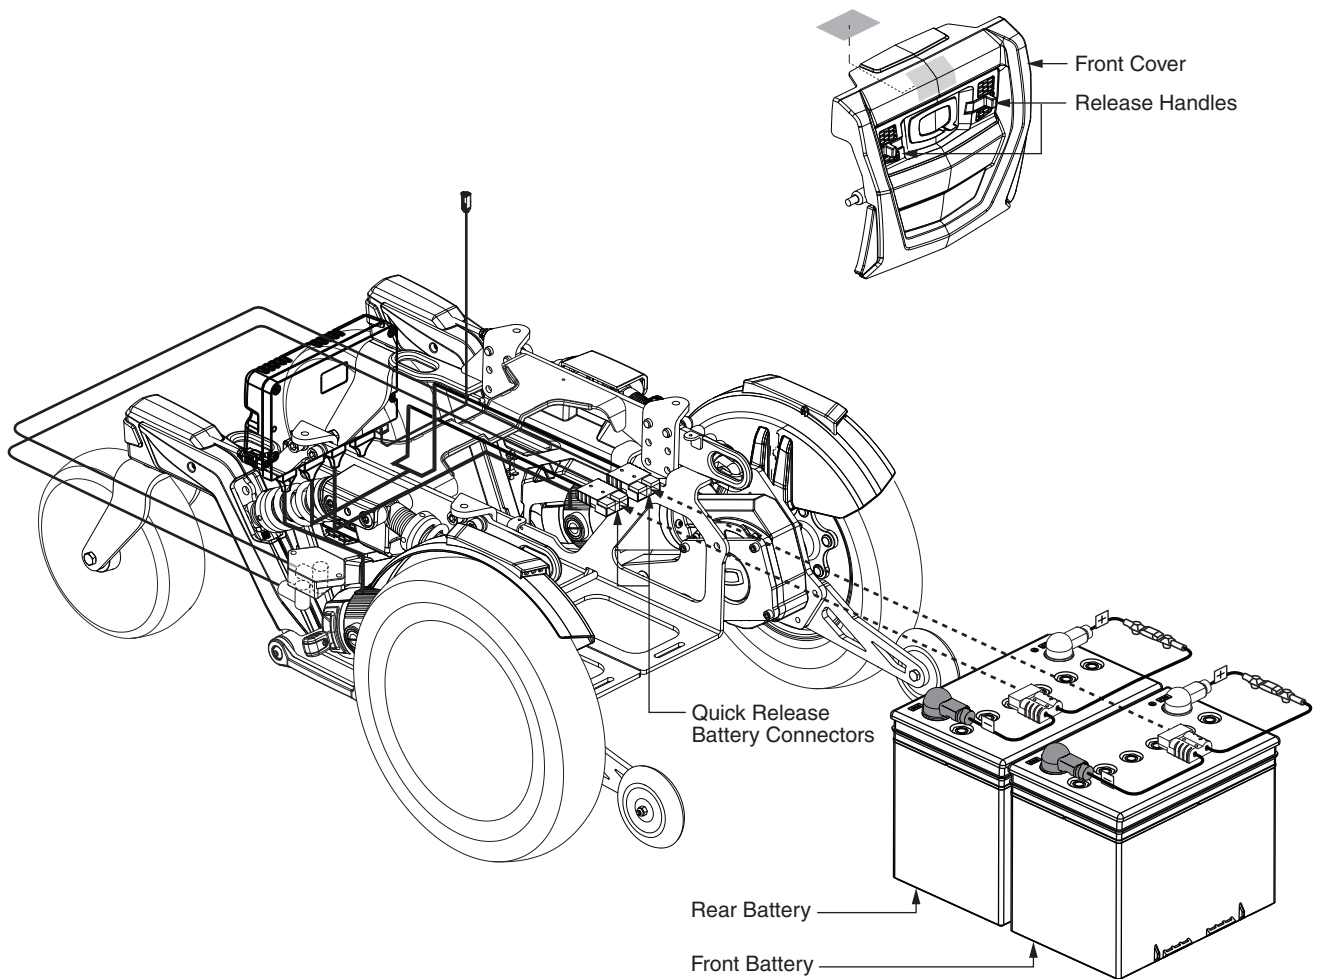

Figure 17. Battery Installation
3. Remove the front cover by squeezing the release handles (**see figure 17**) and lifting the front cover up and away from the power base.
4. Disconnect the quick release battery connectors. **See figure 17.**
7. Connect the battery harness to the new front battery according to the battery wiring diagram. **See figure 17.**
8. Connect the battery harness to the new rear battery according to the battery wiring diagram. **See figure 17.**